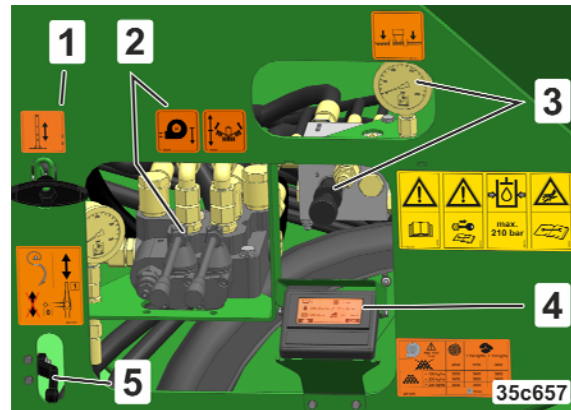

Fig. 39
- Cable pull for the parking support (Fig. 39/1)
- Control elements for the on-board hydraulic system (Fig. 39/2)
- Control elements for the section pressure adjustment (Fig. 39/3)
- In conjunction with ISOBUS, the TwinTerminal (Fig. 39/4)
- Control elements for the wheel mark eradicator folding (Fig. 39/5)